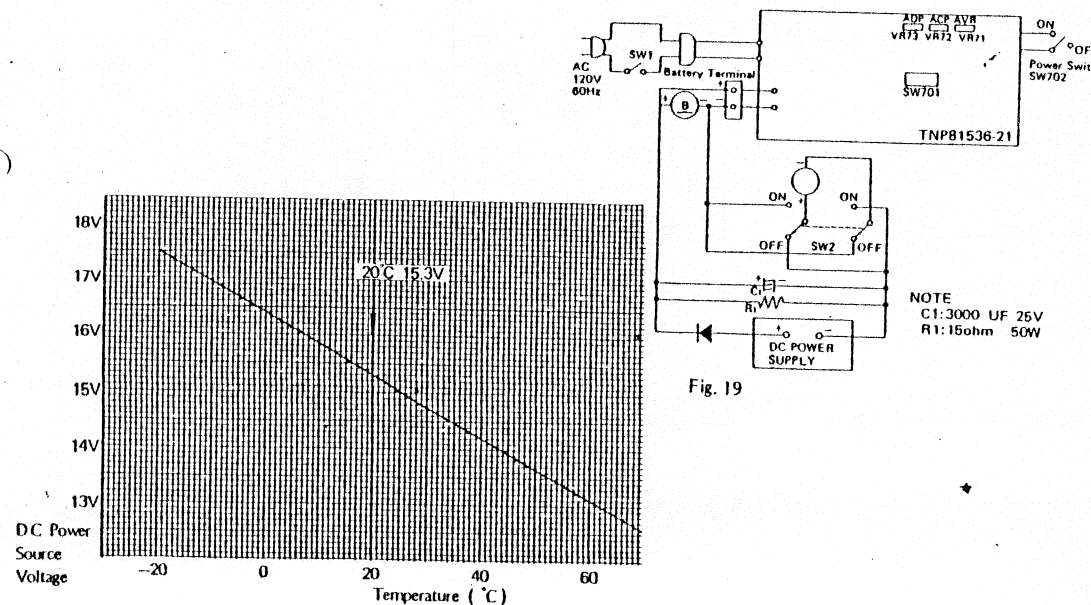

Fig. 20
2. Adjust the DC power supply voltage indicating V1 meter to the value which it indicates Fig.20 (Be sure to check the temperature. The voltage is changed by the temperature.)
4. Confirm the operating voltage of ADP circuit shown in Fig.20 by rising the DC power supply voltage and dropping it.